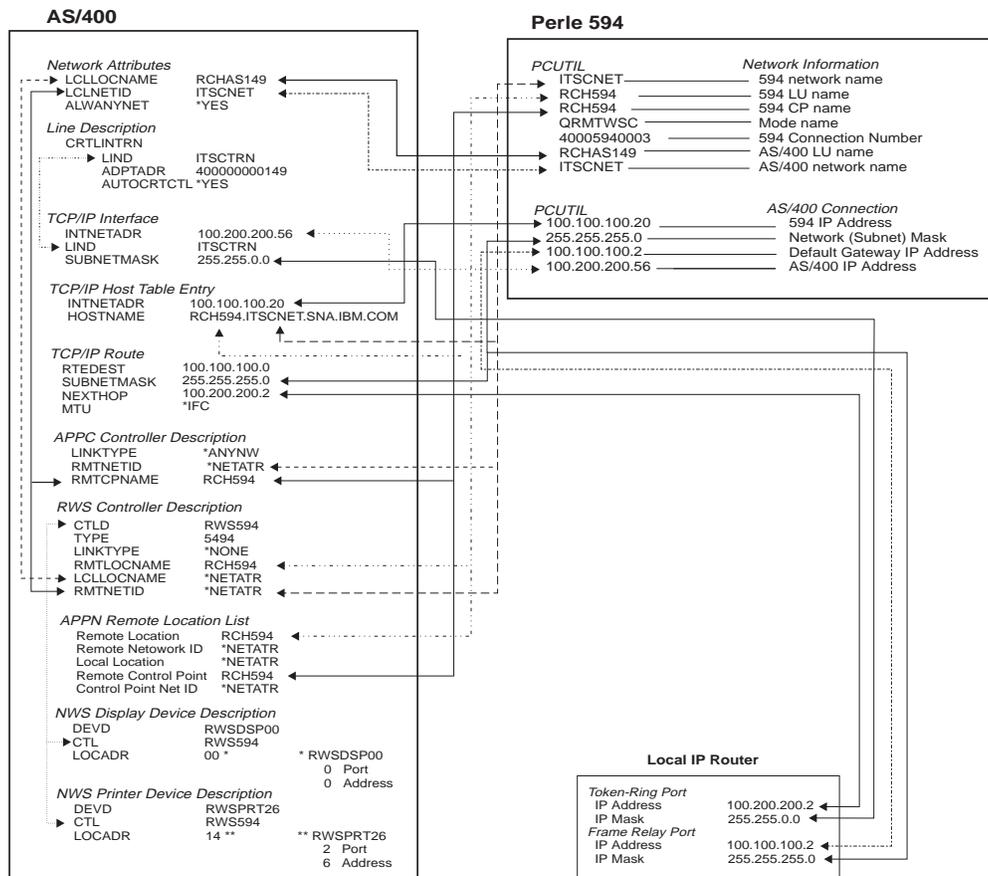

Fig. 26: AS/400 TCP/IP Frame Relay config. cross-reference
- Fig. 26: AS/400 TCP/IP Frame Relay config. cross-reference 14